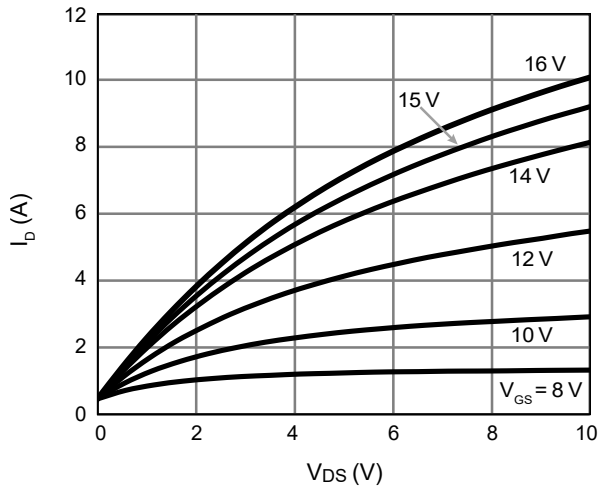

Figure 1. On-Region Characteristics  $T_j = 25^\circ\text{C}$
- H. The static characteristics in Figures 1 to 8 are obtained using < 300 ms pulses, duty cycle 0.5% max.